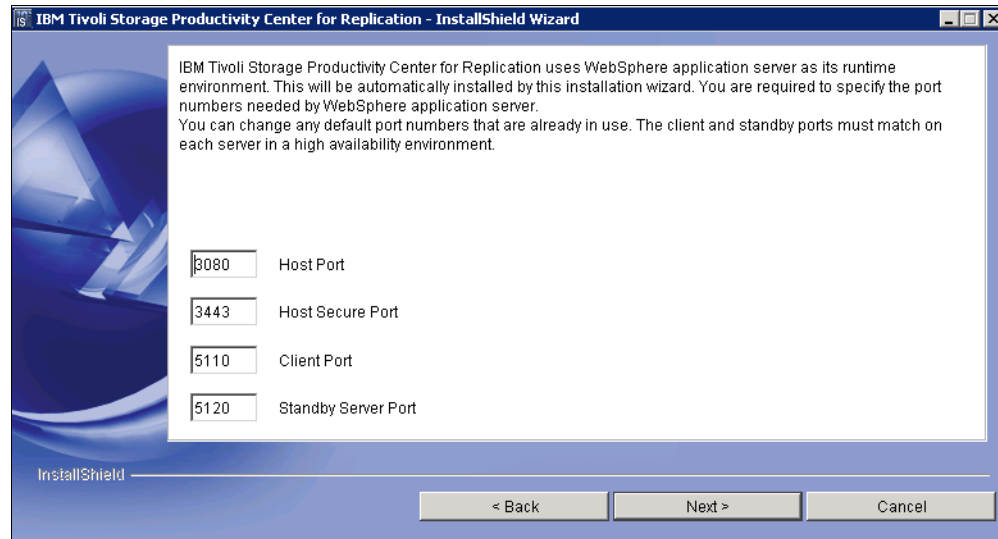

Figure 12-33 Select ports
13.Keep the default ports and click **Next** (Figure 12-33).